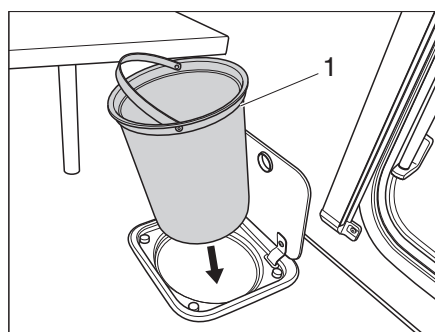

Fig. 169 Waste bin in kitchen
- Remove the waste bin (Bild 169,1) using the handle and empty in accordance with the applicable regulations.